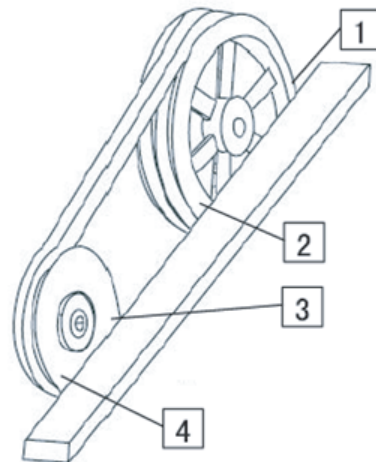

Fig.10-3
- life of belt. Every time after belt adjustment, you should check if positions of the 2 pulleys are correct, refer to figure 10-3, you can put a ruler on the same side of 2 pulleys to check if positions of 2 pulleys are correct. Check if point 1, point 2, point 3 and point 4 are in the same plane. If not, you can loosen fixed screws of fan pulleys and along the fan axle to slide fan pulleys. Loosen motor to adjust the angle on the fan slide way. Adjust to straightness≤ 2mm.